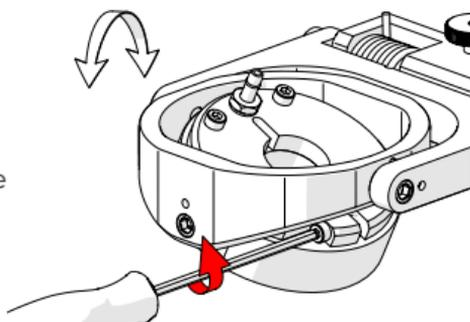

Fig. 136 - Loosen screw
1. Angle the corrosion thickness probe holder receptacle and loosen the receptacle screw with a 2.5 mm hex driver (Fig. 136).